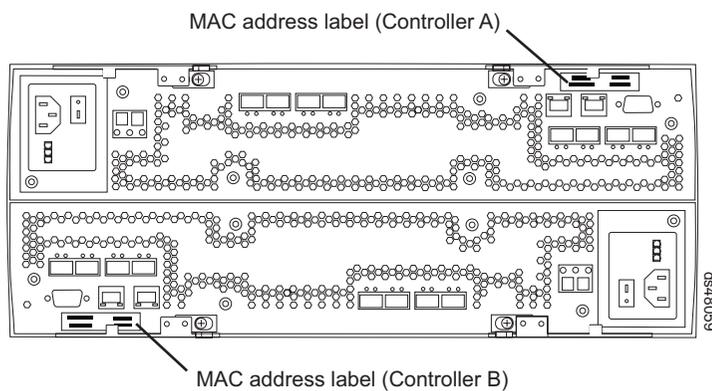

Figure 10. MAC address labels on DS4800 RAID controllers
16. If you use out-of-band (direct) management and assign IP addresses to the DS4800 controllers using Dynamic Host Configuration Protocol (DHCP) based on the DS4800 controller MAC addresses, you must upgrade your DHCP server with the new MAC addresses for the replacement DS4800 controllers in the upgrade kit. You can find the MAC addresses on the controller near the Ethernet ports. Figure 10 shows the location of the MAC address labels.